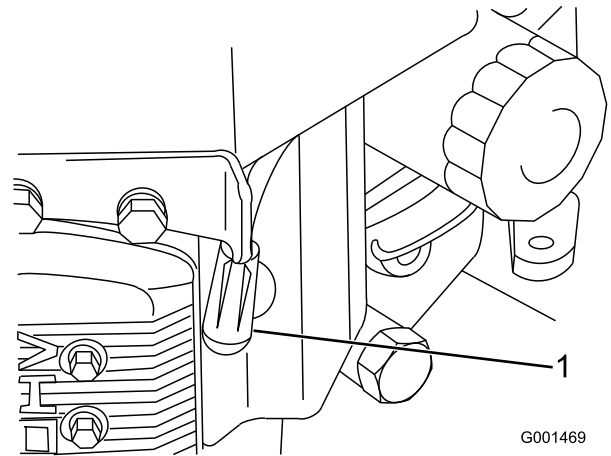

Figure 25
3. Disconnect the spark-plug wires (Figure 25).